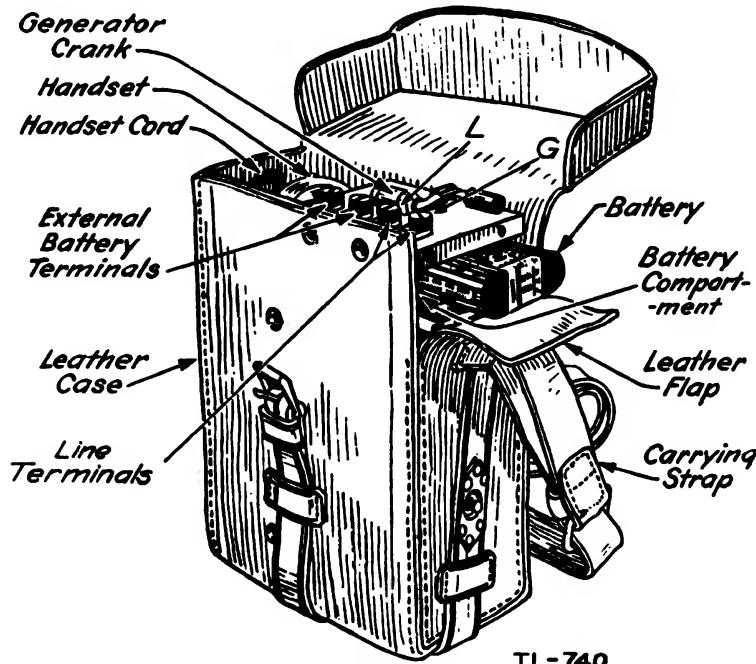

FIGURE 44.—Field telephone EE-5.
**Q.** How are the batteries installed in the EE-8 and EE-8A telephones? **A.** Remove the hand-set from the carrying compartment. Place two batteries BA-30 in the battery compartment (see fig. 44), being sure that the bottoms of the batteries rest on the springs and that the tops of the batteries rest against the contacts at the top of the compartment.
**Q.** How is the battery installed in the EE-5 telephone? **A.** One battery BA-9 (4½ volts) is inserted in a spring clip just below the top of the frame (see fig. 44). The battery is covered by the leather flap formed by one side of the case. Two screws which hold this flap to the frame must be removed to insert the battery, after which the screws should be replaced.